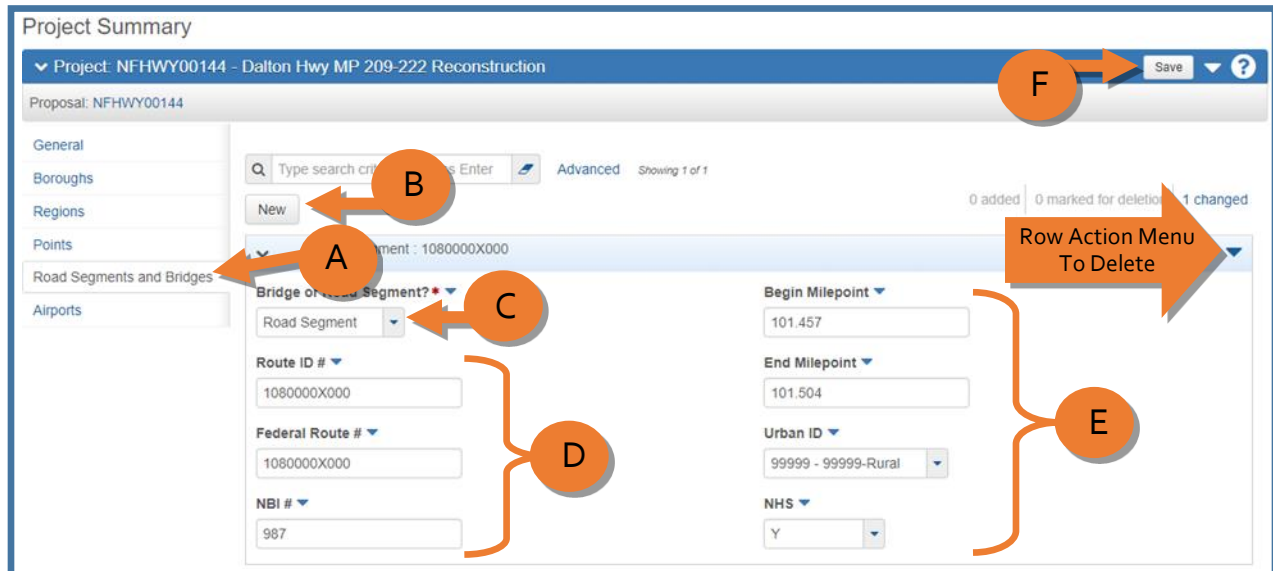

Figure 3.17
For Road Segments, in the Project Summary component (*Figure 3.17*):
2. Expand the **row actions menu** on the right side and select **Delete** (see *Figure 3.17*). The road segment record is marked for deletion and users may "undo"  the action until the user clicks **<Save>**.